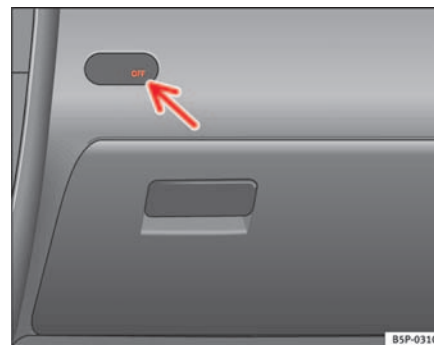

Fig. 27 Warning lamp for deactivated passenger airbag in centre console
- Check that the warning lamp “AIRBAG OFF” in the dash panel ⇒ fig. 27 remains lit ⇒ ⚠ when the ignition is switched on.
- Check that the warning lamp in the panel ⇒ page 44, fig. 27 does not light up when the ignition is switched on ⇒ .